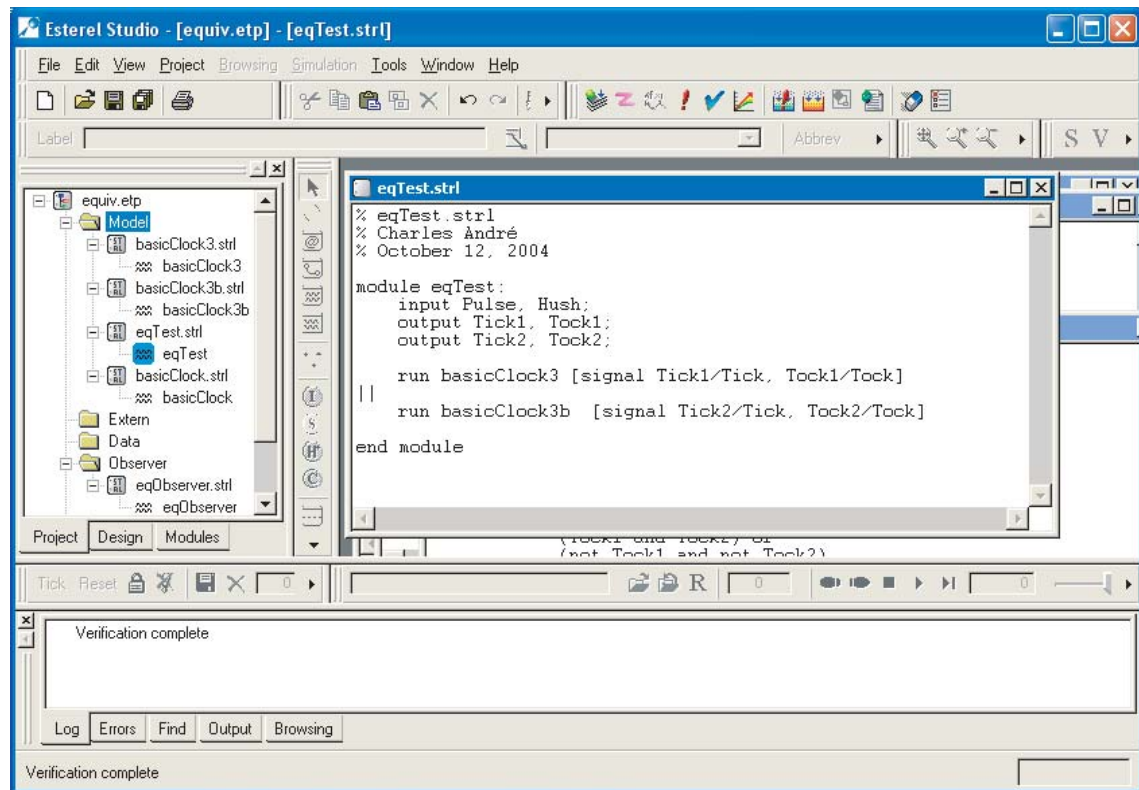

Figure 6: Workspace for the verification.
2. Load files `basicClock.str1`, `basicClock3.str1`, `basicClock3b.str1`, `eqTest.str1` (see Fig. 6).